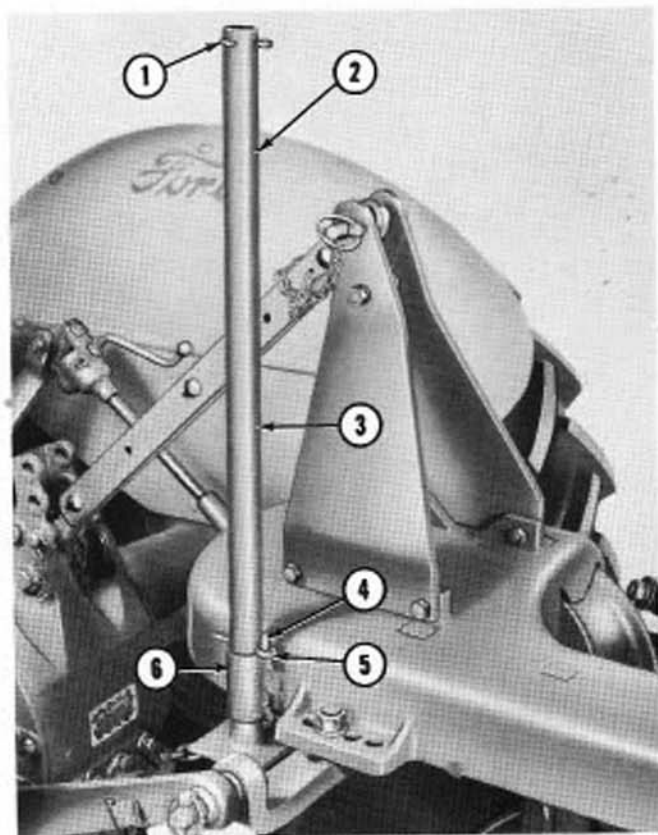

Figure 5
7. Attach the plow support stand (3), Figure 5, to the plow as follows:
- a. Remove the cotter pin (1), Figure 5, from the top hole in the support stand (3).
- b. Insert the stand through the bottom of the bracket (6), Figure 5, on the left side of the weight block, and replace the cotter pin (1) as shown.
- c. For transport purposes, raise the support stand (3), Figure 5, until the bottom hole is above the bracket (6). Secure the stand by inserting the cotter pin (5) through the stand and placing it over the pin (4) as shown.
- d. When using the stand to support the plow, remove the cotter pin (5), Figure 5, and